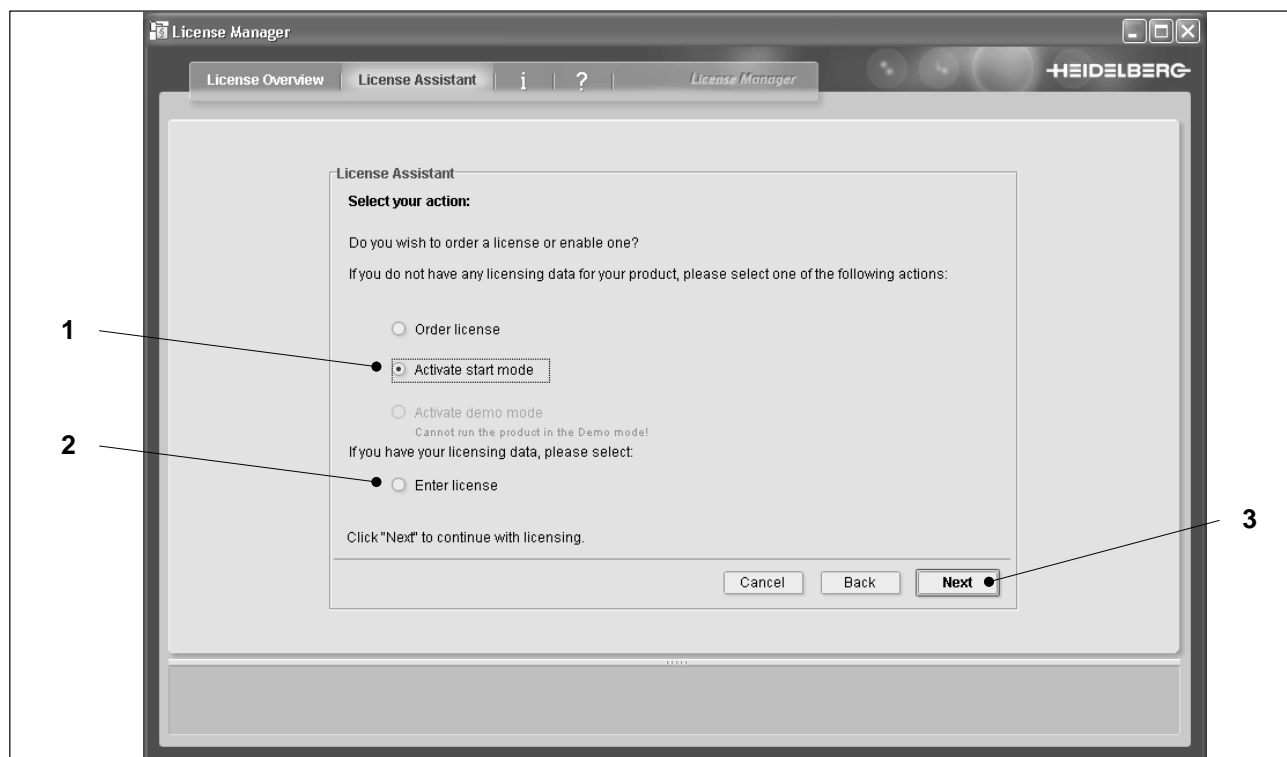

Fig. 2 License Assistant
The *Select action* dialog window opens (Fig. 2).
The *Enter license* option field (Fig. 2/2) is activated first as standard.
3. Click on *Activate start-up mode* (Fig. 2/1) and then click on *Continue* (Fig. 2/3).